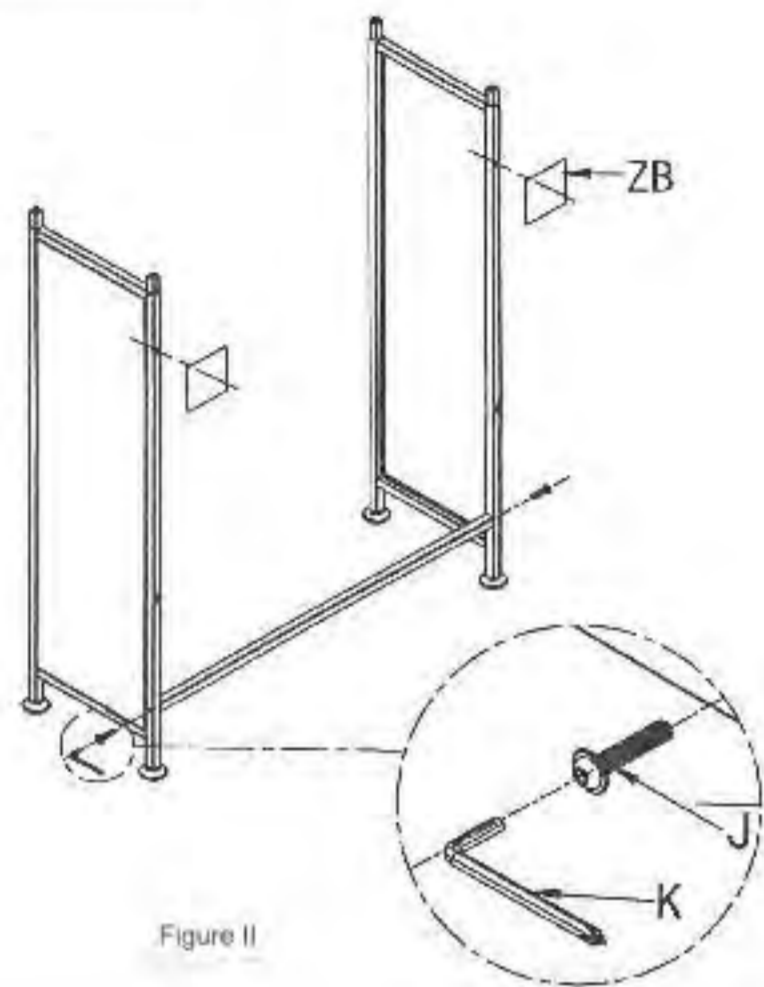

Figure 2
2.2 Use M6\*25 pan head hexagon socket screws to install and fix the connecting pipe and the left and right lower side frames, and then install the traceless sticker as shown in Figure 2.